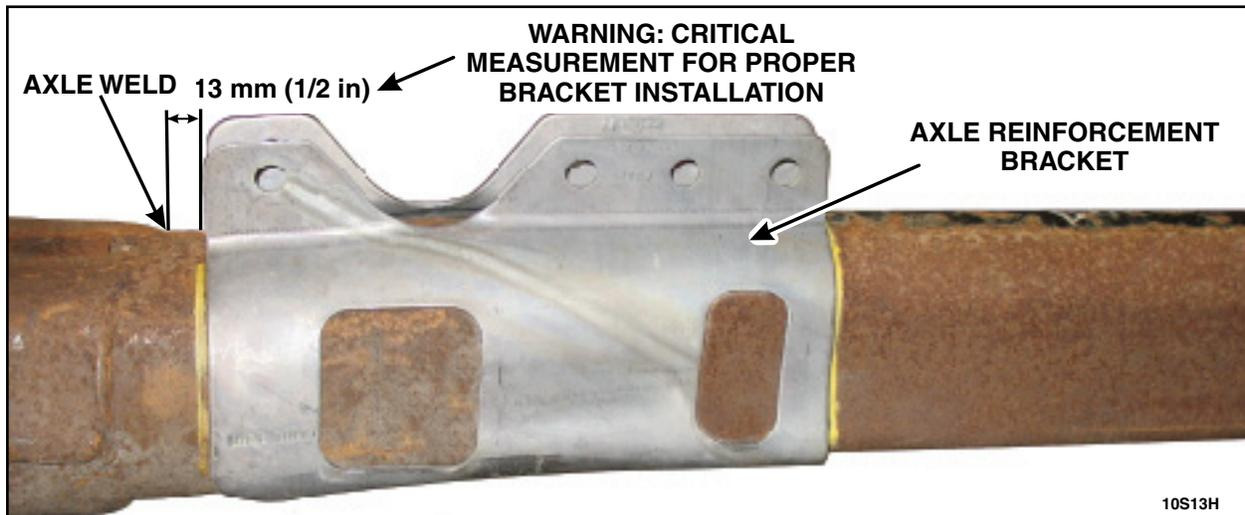

FIGURE 1
2. Using a hammer, dry fit both sets of axle reinforcement brackets 13 mm (1/2 in) from the top of the axle weld. Using a paint pen or marker, outline the outer edges of the axle reinforcement brackets. See Figure 1.